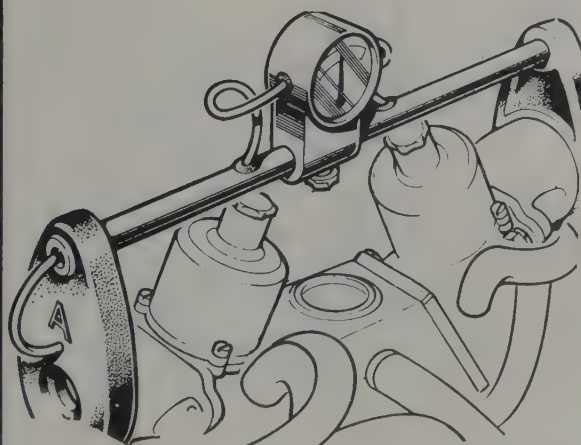

Fig. 3.20. Gray-Horwood type air flow meter
- 2 Fit the balancing flow meter to the carburettor intakes making sure that there are no air leaks (Fig.3.20).